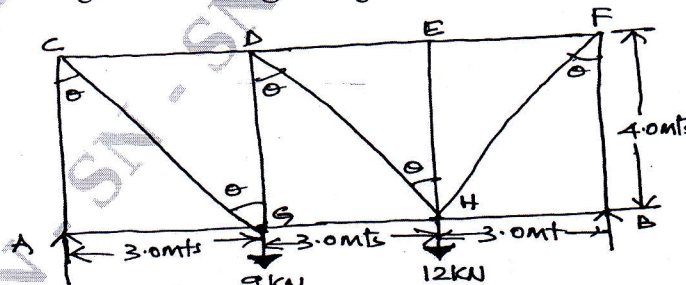

Fig.Q9(c)
c. A truss is shown in Fig.Q9(c), determine the support reactions and calculate the total weight, if each member has 2 angles 50x50x6 @ 4.5 kg/mt each